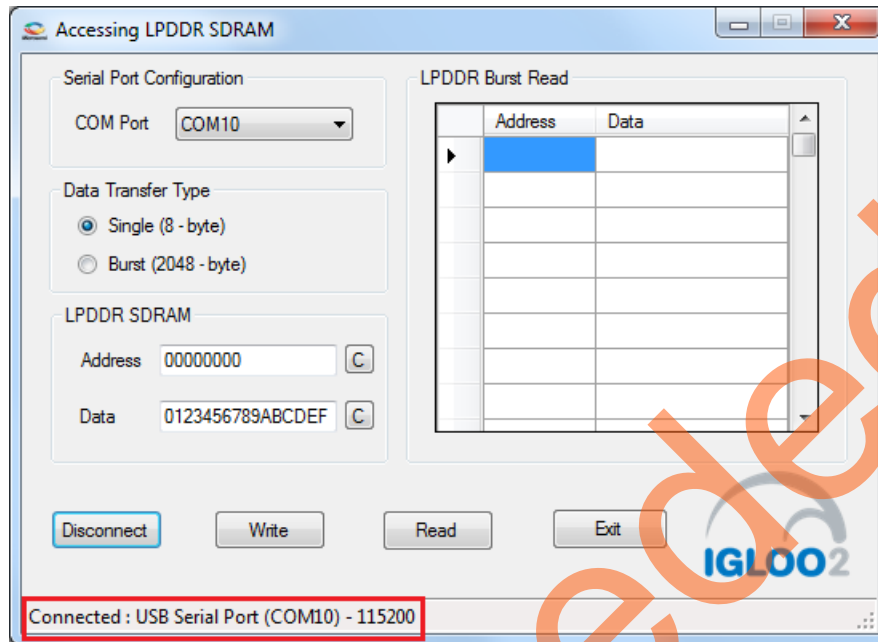

Figure 20 • IGL2_MDDR_Demo – Connection Status
- Click **Connect**. The connection status along with the COM Port and Baud rate is shown in the left bottom corner of the screen. Figure 20 shows the connection status of the utility.